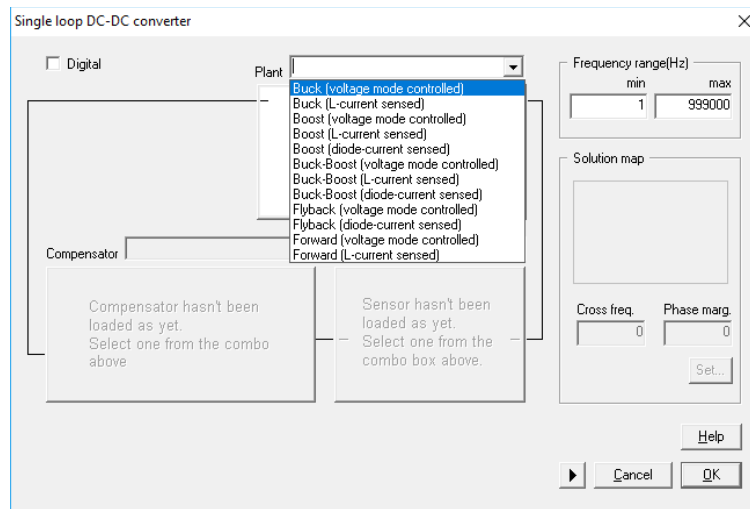
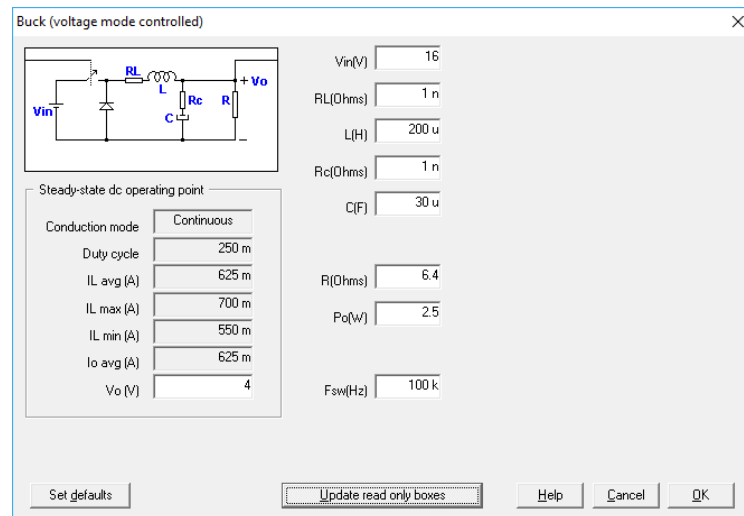

Figure 2: Select the plant topology
Figure 3: parametrize the plant
2. Select a buck voltage mode controlled plant (See Figure 2) and introduce the plant parameters shown in Figure 3. Notice that Digital checkbox has been left unmarked.